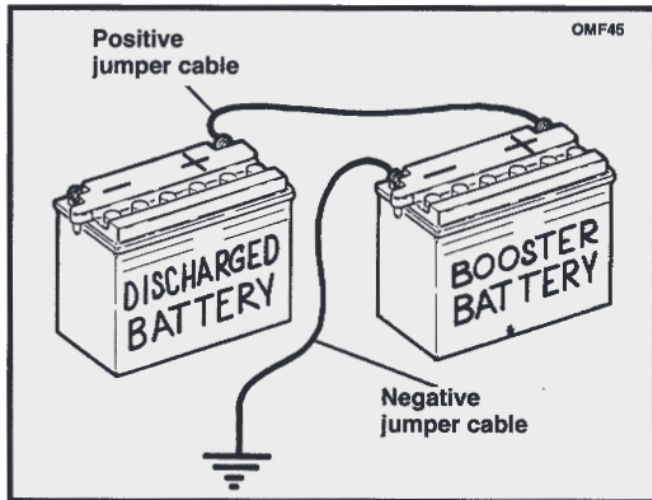

Figure 47. Jump Start Cable Connections
2. See Figure 47. Connect one end of a jumper cable to the DISCHARGED battery positive (+) terminal.